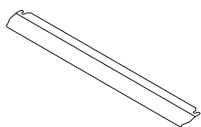

Fig. 26
1. A safety panel is designed to protect control panel and the buttons when the oven is in grill mode. (figure 26)